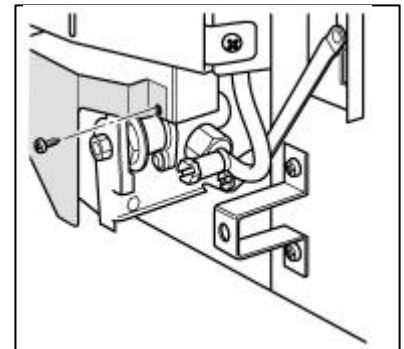

Fig. 43 Microswitch cover removal
See figures 43 & 44.
13.1.2 Detach the microswitch cover by removing one screw and pulling clear of the location lug (see figure 43).
See figures 43, 44 & 45.
13.2.2 Detach the microswitch cover by removing one screw and pulling clear of the location lug (see figure 43).